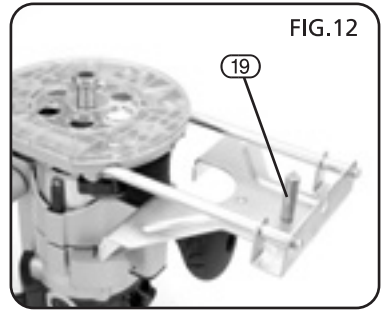

FIG.12
9.8 *PIVOT ROD TRAMMEL - FIG. 12*